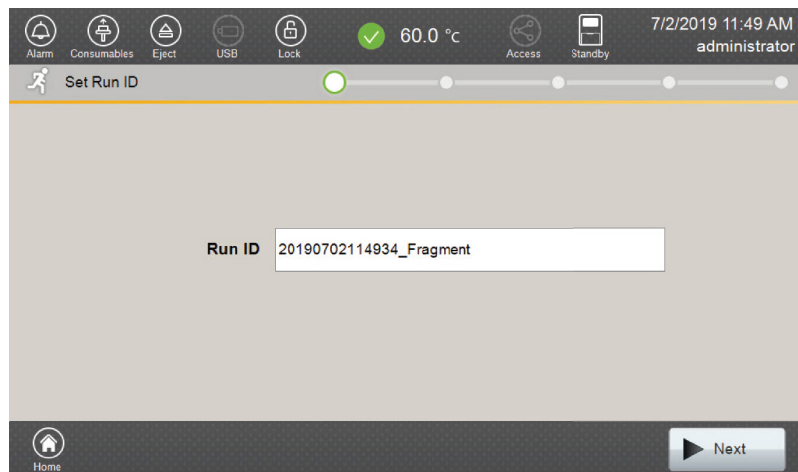

Figure 57. 'Set Run ID' screen.
2. Enter a Run ID on the 'Set Run ID' screen (Figure 57). Select the **Run ID** box. This opens the 'Run ID' window, and a keypad will become active on the touch screen. Alternatively, the Run ID can be entered using a traditional keyboard if one is connected to the Spectrum Compact CE System. The following table lists rules for characters that can be used for a Run ID.